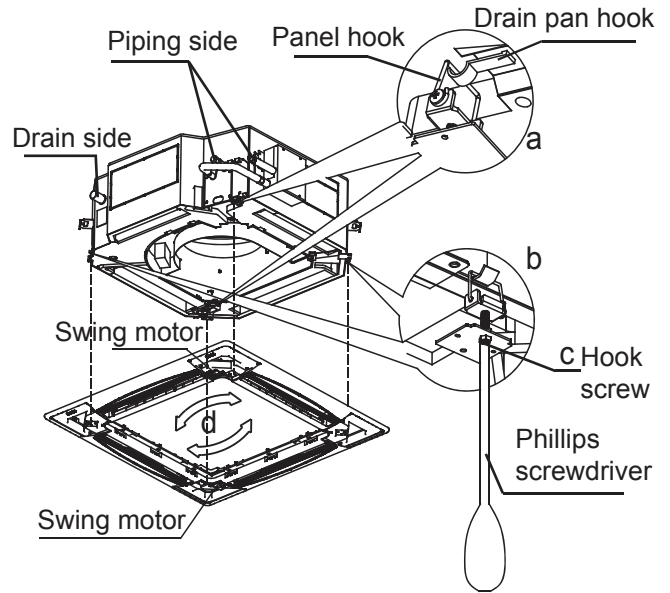

Figure 3.15
- (1) Align the "PIPING SIDE" and "DRAIN SIDE" sections marked on the panel with the corresponding copper pipe connection and water discharge connection in the unit body.
- (2) During installing, first hang the swing motor side of the panel and hook on opposite of the panel in the unit body to the corresponding drain pan hook (see Figure 3.15, a). Then, hang the two remaining panel hooks on the corresponding suspension bracket of the unit body of the indoor unit (see Figure 3.15, b).
- (3) Slot the guide wire of the swing motor to the card slot on the panel, and connect the leads from the swing motor, and display box from the panel to the corresponding connections on the unit body respectively. Take care to use protective casing to secure and strengthen the safety isolation of the terminals.
- (4) Adjust the four panel hook screws (see Figure 3.15, c) to keep the panel level, and lift it evenly up to the ceiling.
- (5) Adjust the panel slightly in the "d" direction (see Figure 3.15, d), so that the centre of the panel aligns with the centre of the opening of the ceiling. Verify that the hooks in all four corners are securely in place.